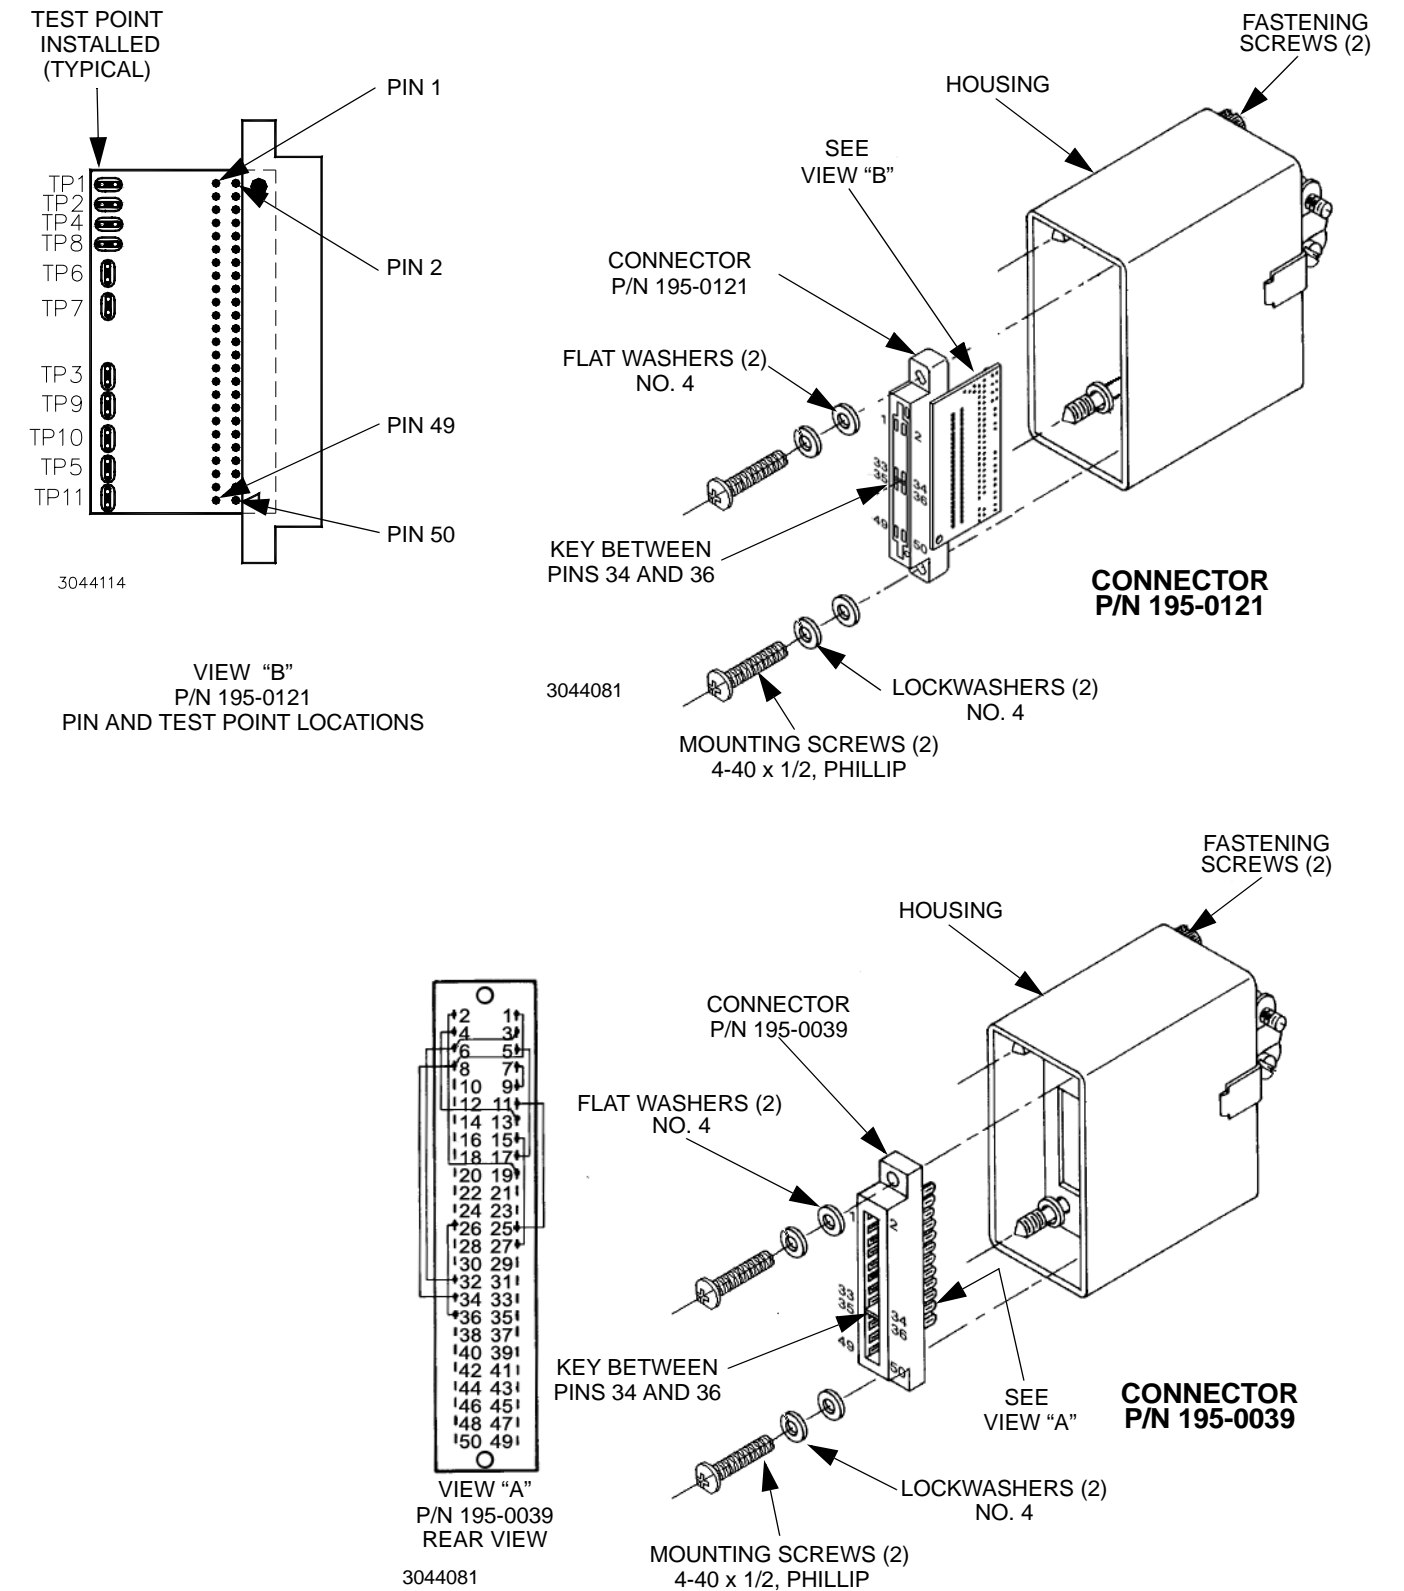

Figure 3-29. PC 15/PC 12 Rear Programming Connector Interconnections
5. SEE FIGURE 3-29 FOR REAR PROGRAMMING CONNECTOR CONNECTIONS REQUIRED FOR LOCAL CONTROL.